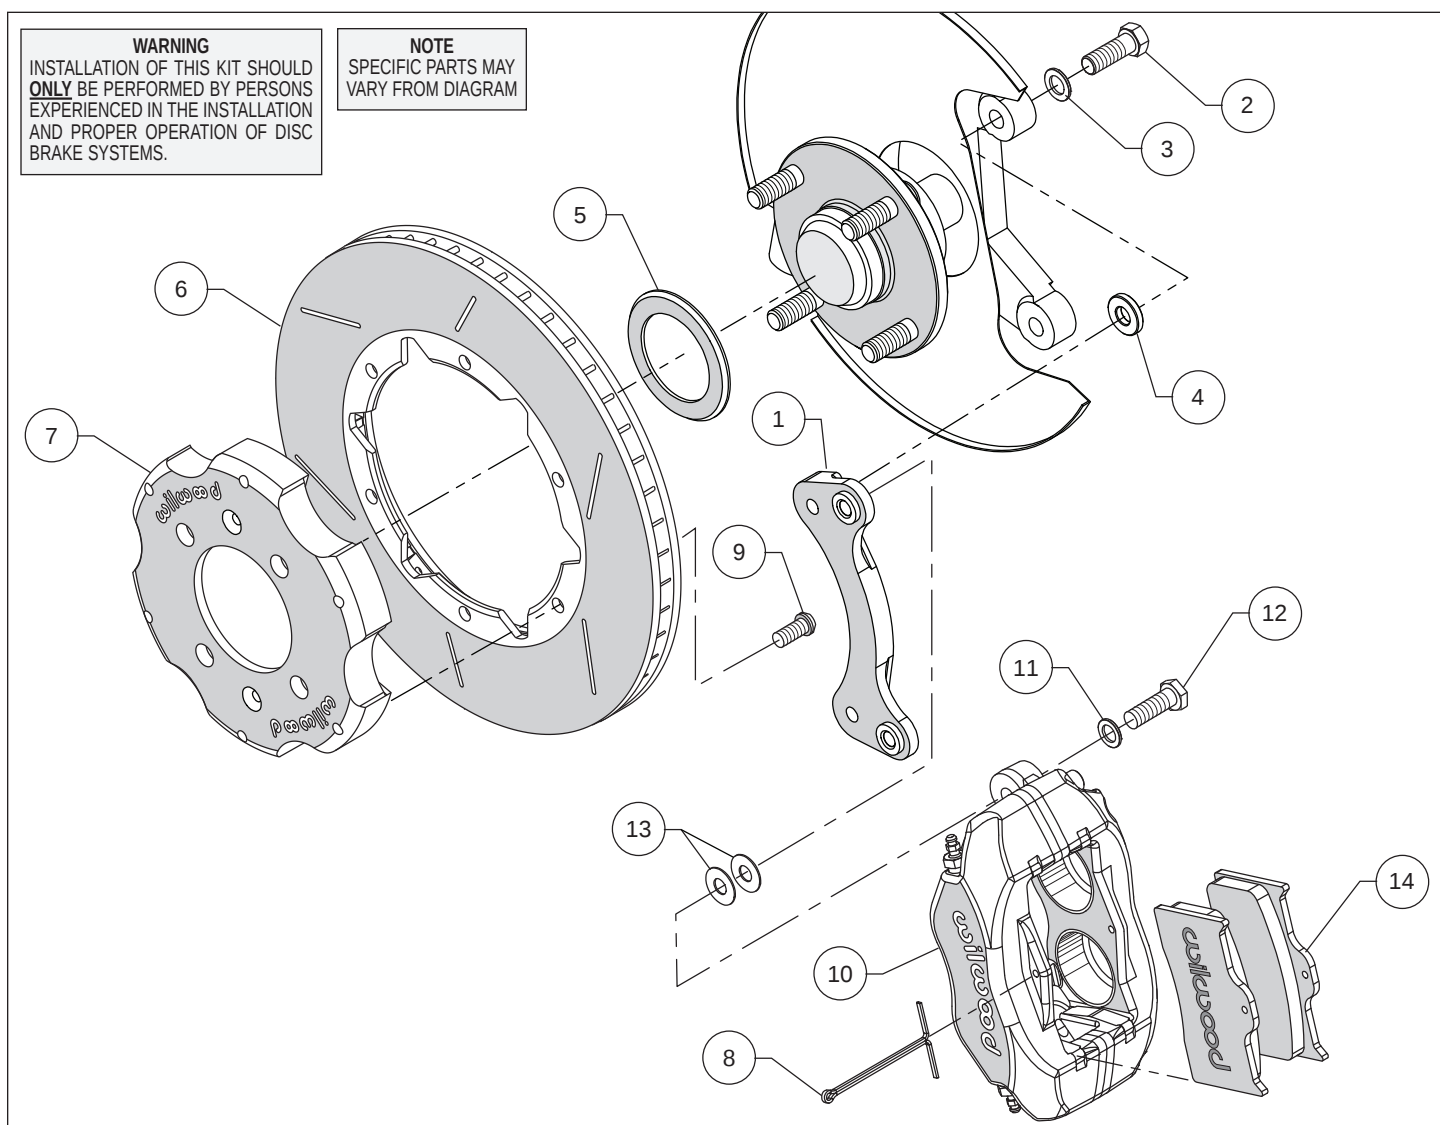
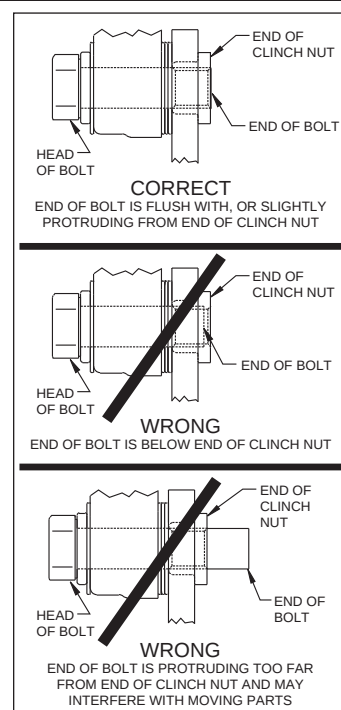

Figure 1. Typical Installation Configuration
Figure 3. Clinch Nut Engagement Diagram
Assembly Instructions (numbers in parenthesis refer to the parts list and Figure 1 on the preceding pages): **CAUTION:** All mounting bolts must fully engage clinch nuts. Be sure to check that all bolts are either flush or protruding through flanged side of clinch nut after shimming, Figure 3.
- Orient the caliper mount bracket (1) as shown in Figure 1 and Photo 1, and install using bolts (2) and washers (3). Place a spacer (4) on each bolt between the bracket and caliper mounting bosses, Figure 1 and Photo 2. Ensure that the flanged heads of the clinch nuts in the bracket are facing outboard, Photo 1. Temporarily tighten the mounting bolts. **NOTE:** The bracket must fit squarely against the mount bosses on the upright. Inspect for interference from casting irregularities, machining ridges, burrs, etc. Remove bolts one at a time, apply red *Loctite*® 271 to the threads and torque to 30 ft-lb.
- Orient the rotor (6) and the hat (7) as shown in Figure 1 and Photo 3. Attach rotor to hat using bolts (9). Using an alternating sequence, apply red *Loctite*® 271 to the threads, and torque to 25 ft-lbs.
- NOTE:** Please reference the caution statement at the beginning of the assembly instructions. Mount the caliper (10) onto the caliper mounting bracket (1) using bolts (12) and washers (11), as shown in Figure 1. Initially place two .035" thick shims (13) on each bolt between the caliper and the bracket, Photo 5. Temporarily tighten the mounting bolts and view the rotor (6) through the top opening of the caliper. The rotor should be centered in the caliper, Photo 6. If not, adjust by adding or subtracting shims between the bracket and the caliper. Always use the same amount of shims on each of the two mounting bolts. **NOTE:** The end of each bolt must be flush with or slightly protruding from the head of the clinch nut, as shown in Figure 3. If necessary place spare shims between washer (11) and caliper mounting ear to achieve the proper clinch nut engagement. Once the caliper alignment and clinch nut engagement are correct, remove the bolts one at a time, apply red *Loctite*® 271 to bolt threads, and torque to 40 ft-lb.